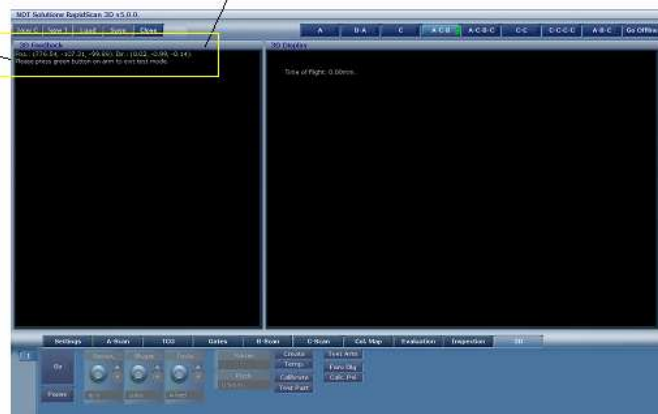

Figure 81: Test Arm Mode
2. Move the end of the FaroArm around and check that the position and direction values change smoothly, see Figure 81.